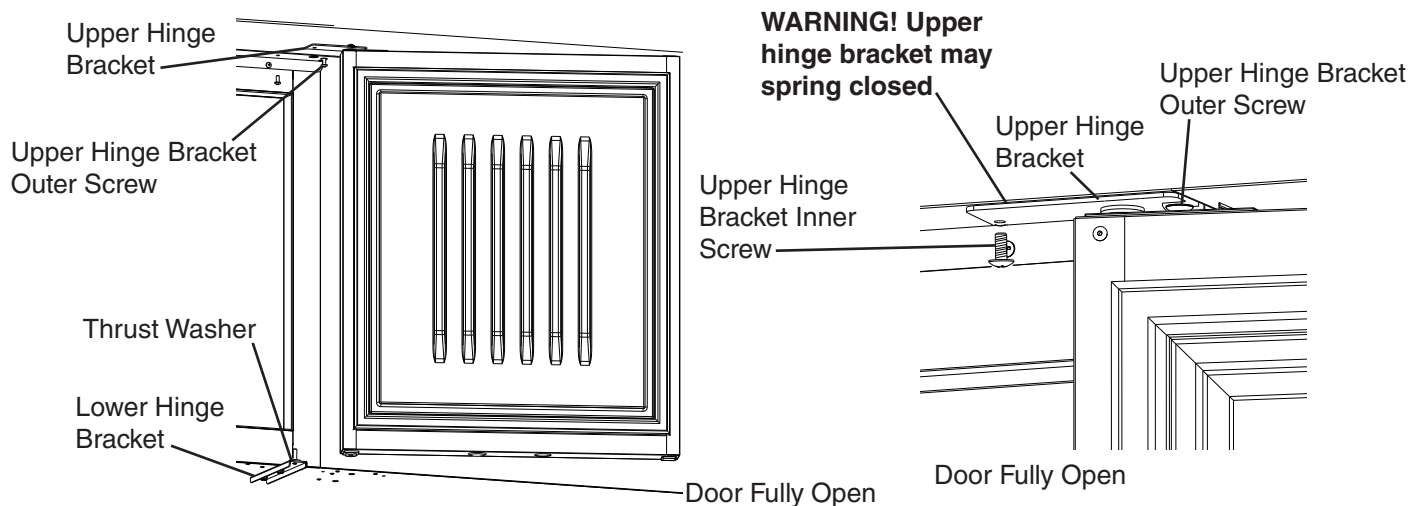

**Fig. 31**
- 16) Be sure the lower hinge bracket thrust washer is in place, then place the door on the lower hinge bracket in the fully open position. Slide the door upper hinge bracket outer slot onto the upper hinge bracket outer screw. See Fig. 31.